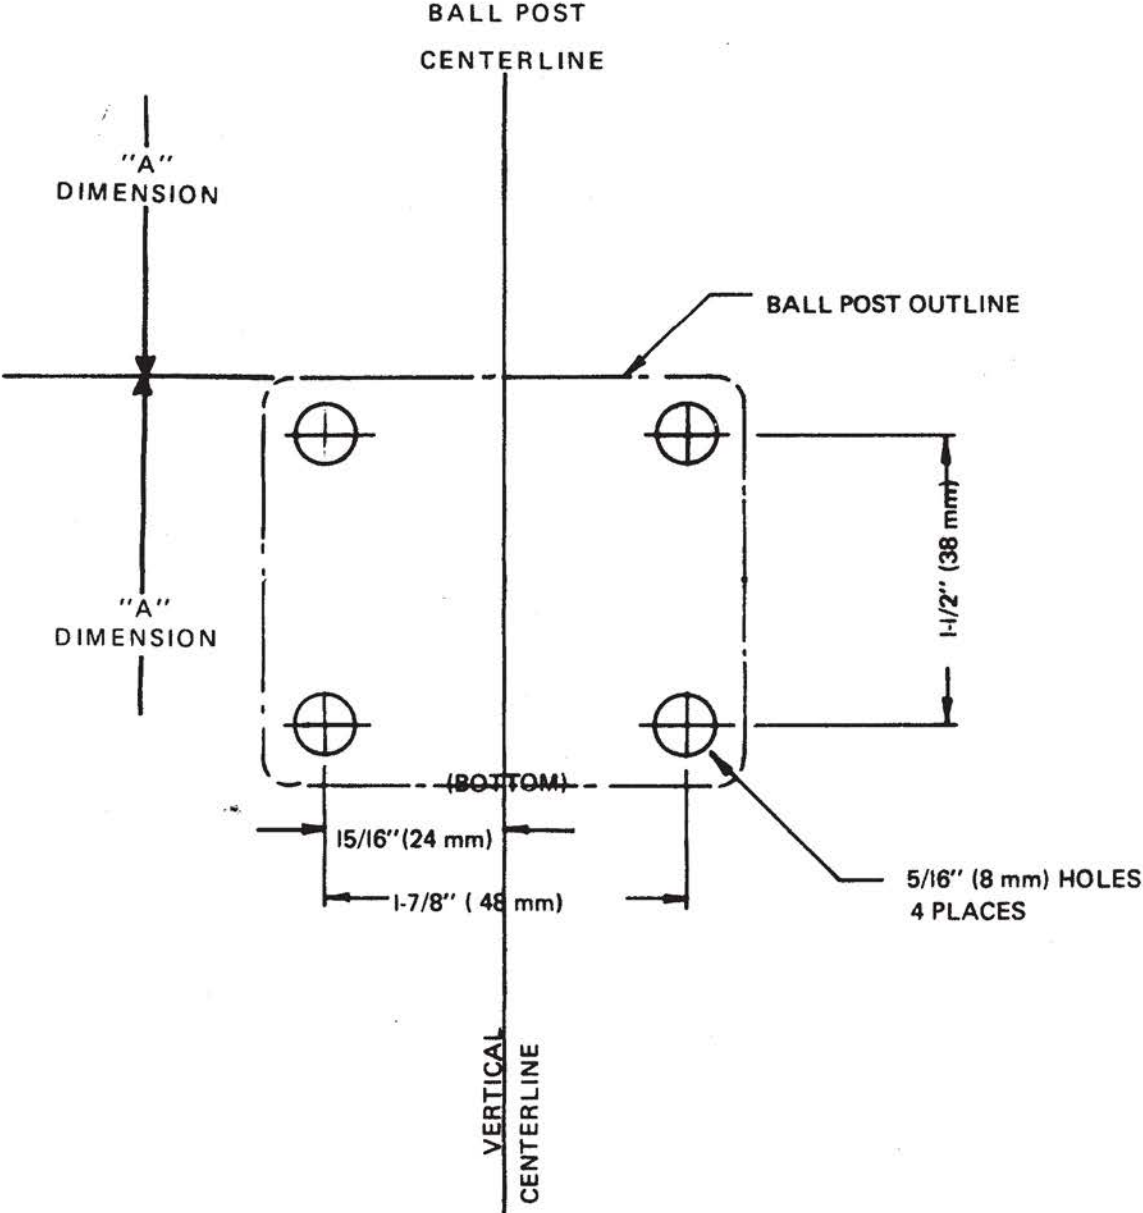

FIGURE 5
2. Select the proper mounting dimension "A" from Table I and mounting position (Figures 2 or 3) required for the type transom and motor used. Using the template (Figure 5) locate and mark the hole pattern on the transom. Place the Ball Post base in position and check the hole pattern. Make any corrections necessary to meet the dimensions specified, then drill four 5/16" (8mm) diameter holes as indicated.